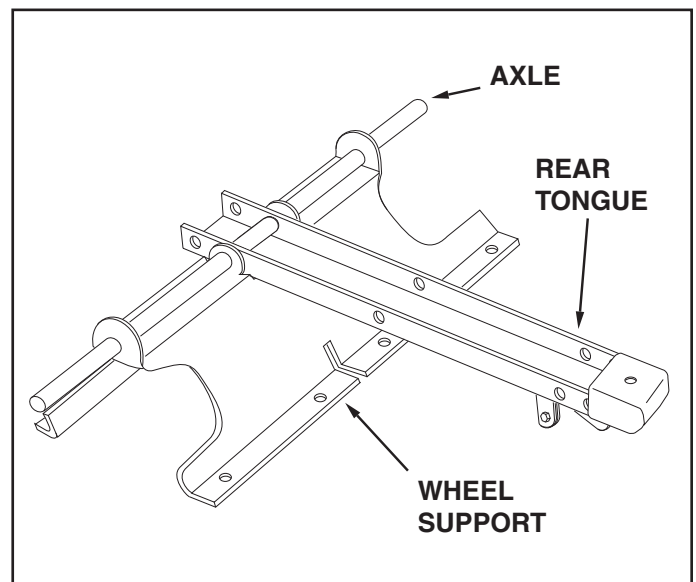

FIGURE 3
7. Lay the rear tongue (open side facing up) onto the Wheel Support. Assemble the axle through the wheel support and the tongue. See figure 3.